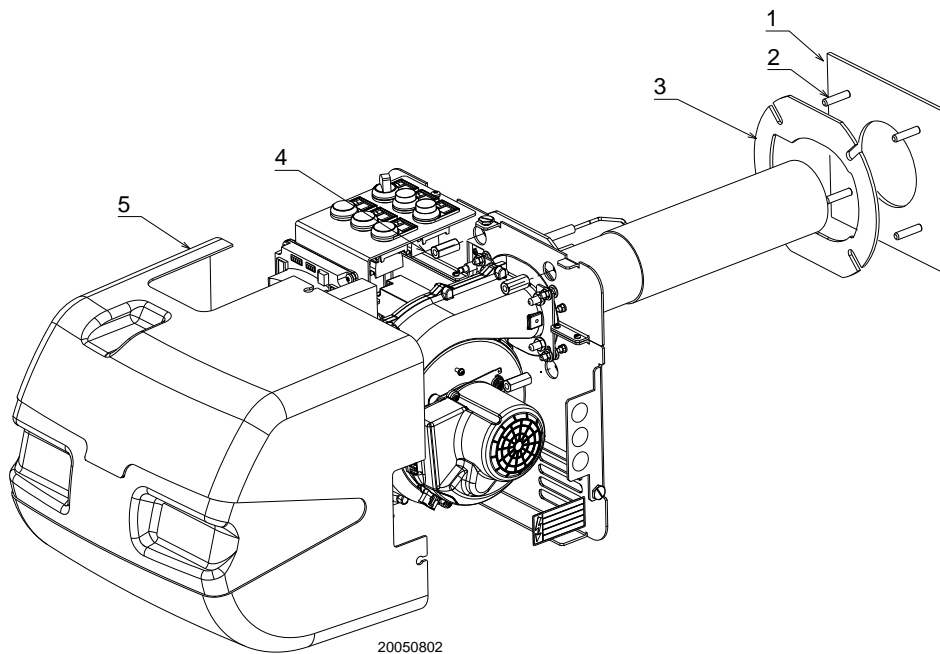

Fig. 11
This protective device must allow the blast tube to be taken out (Fig. 11).
- Screw the studs 2)(Fig. 11) onto the boiler plate 1).
- Position the refractory gasket 3)(Fig. 11).
- Fix the flange to the boiler plate and tighten the nuts 4)(Fig. 11).
- Insert the cover 5)(Fig. 11).